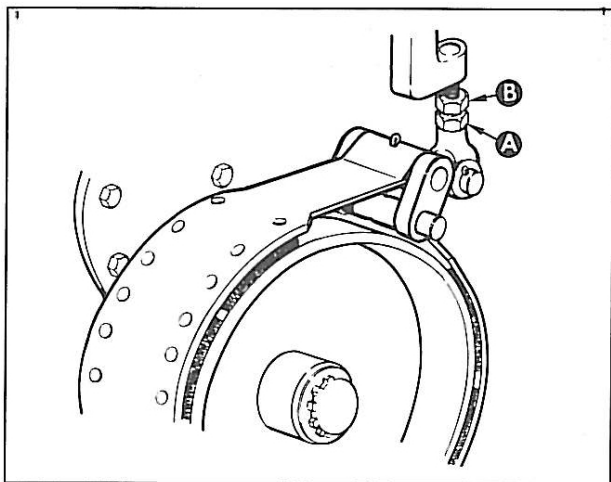

Figure 10. Brake Band Adjustment Diagram,
1. Brake Band Adjustment. (See Figure 10.)